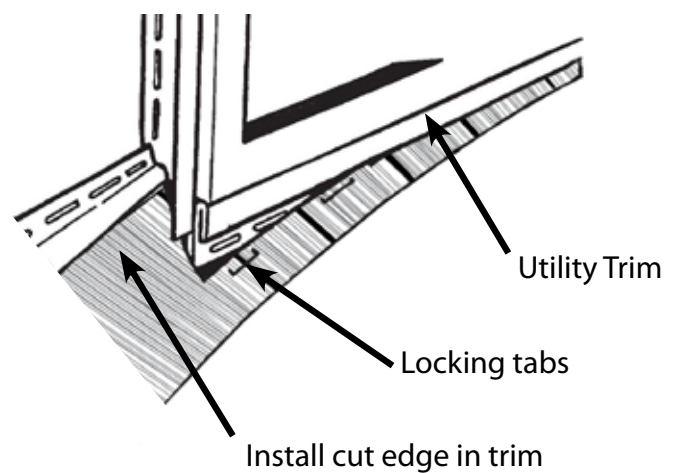

FIGURE 17
- After the panel is cut, use a snap lock punch to create locking tabs every 10 to 12" (254-305 mm) (**FIG 17**).